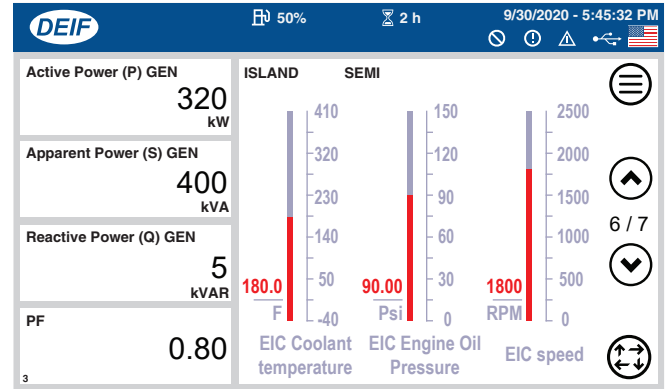

Figure 67. Engine Status Screen (6 of 7)
16. Verify that the **Engine Status** screen (6 of 7) is displayed. **Coolant temperature, oil pressure, and engine speed gauges** are all located on this screen (Figure 67).